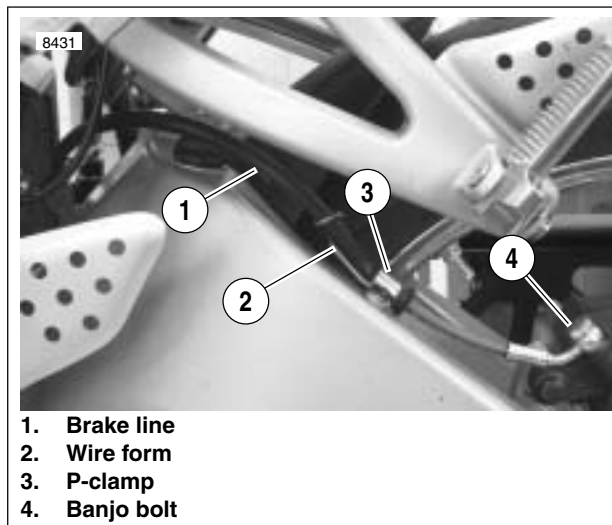

Figure 2-55. Rear Brake Line
6. See Figure 2-55. Remove p-clamp (3) and wire form (2) securing brake line (1) to the left side of swingarm.
3. See Figure 2-55. Secure brake line (1) to left side of swingarm with p-clamp (3), wire form (2), and tighten to 36-60 **in-lbs** (4-7 Nm). See D.1 HOSE AND WIRE ROUTING for brake line routing.